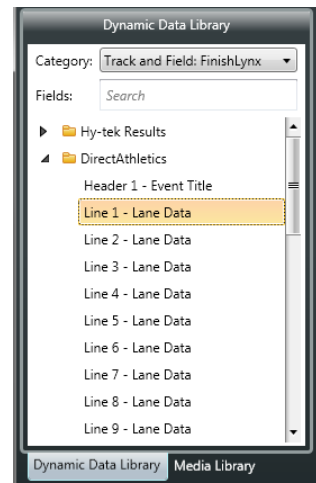

Figure 59: DirectAthletics Results
3. Double-click the "DirectAthletics Results" folder to see the list of all available data fields (**Figure 59**).